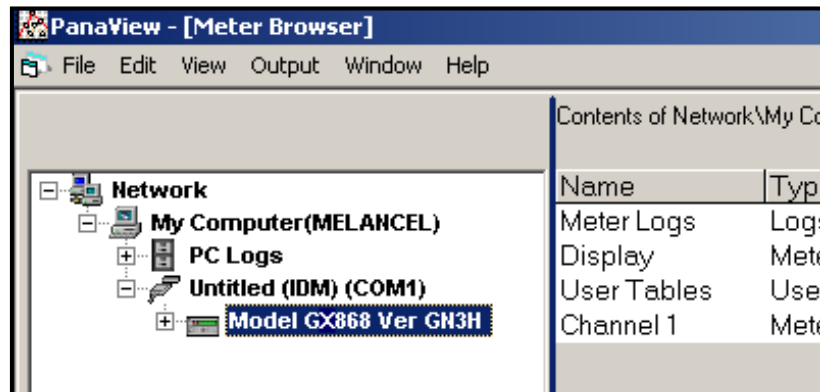

Figure 22: The Updated Network Tree
If the initialization is successful, the Meter Browser shows a listing similar to Figure 22 below.
1. Highlight the meter (as shown in *Figure 22 on page 94*).